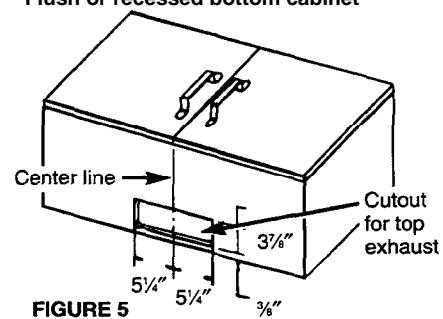

FIGURE 5
**Type "C" Models:** See Figs. 5,6 and 10.